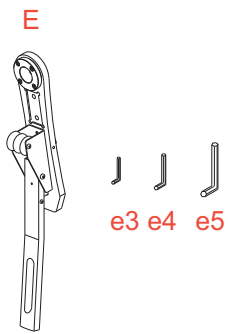

Fig. 4A
(Fig. 4a) Nr 1 **Lever group (E)** and a bag containing Allen keys of 3 (e3)- 4 (e4)- 5 (e5)